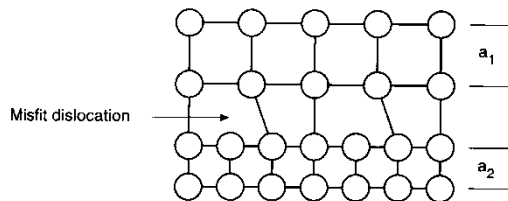

Figure 2.7 Misfit dislocation schematic.
Figure 2.8 A TEM comparable to the schematic of Figure 2.7 that shows the (111) planes of aluminum epitaxially overgrown on silicon and the (111) planes of the silicon substrate.